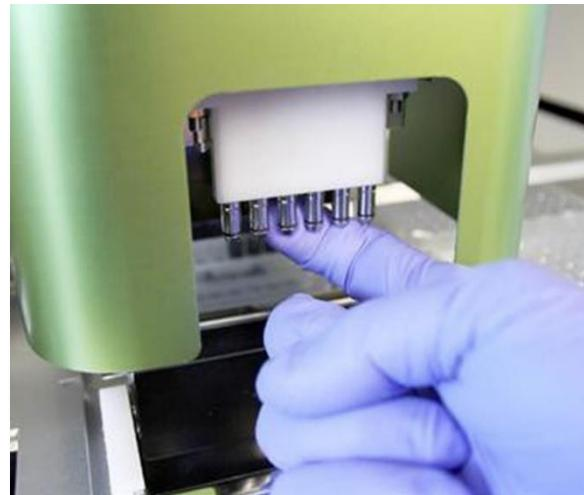

Figure 122: Use a finger to apply a small amount of NanoString silicone grease to the O-rings
3. To lubricate the O-rings, first use a twisted Kim Wipe or lens cloth to “floss” between the nozzles and remove any grease from the white tip ejector block above the nozzles. If necessary, pull the tip ejector block down to thoroughly clean the end of it. Next, take a small amount of silicone grease and rub the tip around the O-ring using a gloved hand as shown (**Figure 122**).